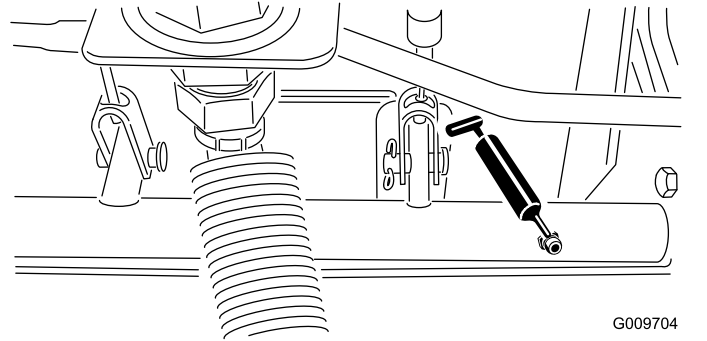

Figure 43
- Brake shaft pivot bearings (5) (Figure 43)